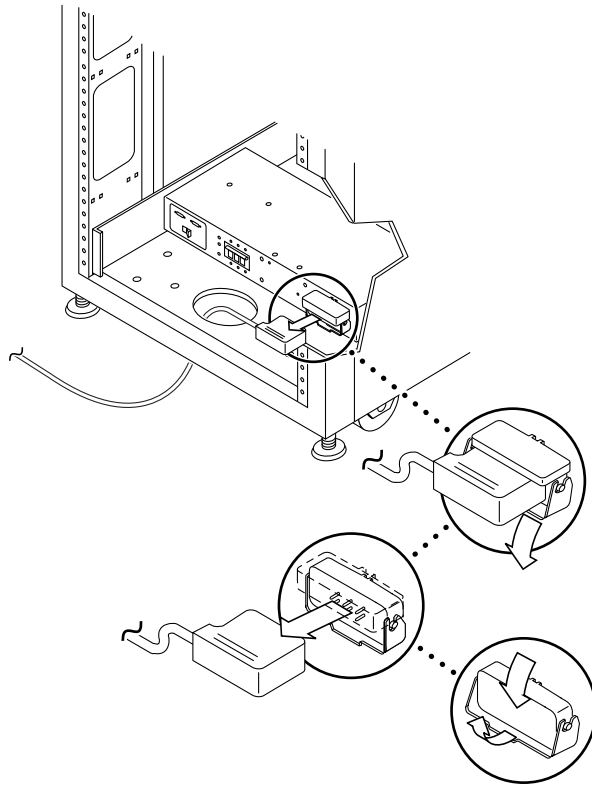

FIGURE 6-9 Removing the AC Power Cord
1. **Disconnect the AC power cord from the power connector on the power sequencer (FIGURE 6-9).**
- 1. Pull back the power connector cover (FIGURE 6-9).**